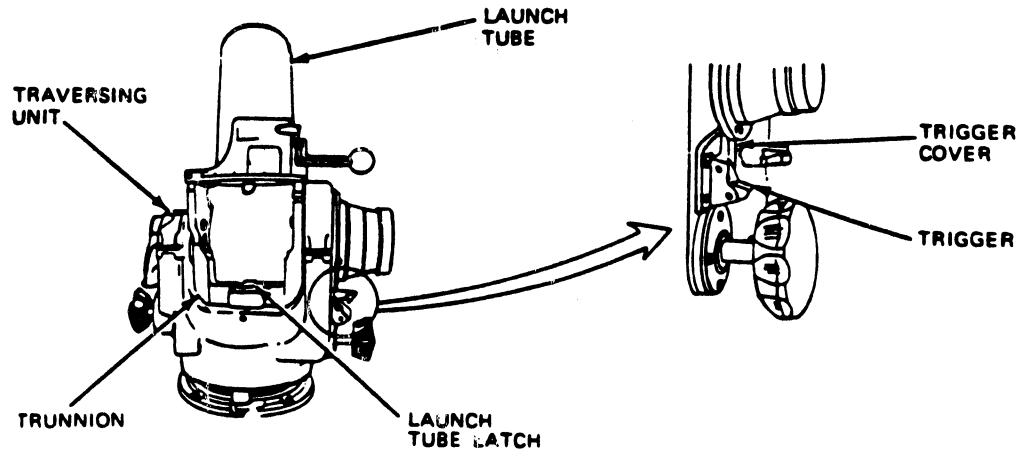

Fig 3-1. Traversing unit.
Step 1. Lift the trigger cover on the traversing unit, press in on the trigger and release (fig 3-1).
Step 2. Lower the trigger cover on the traversing unit and check the launch tube latch (fig 3-1).